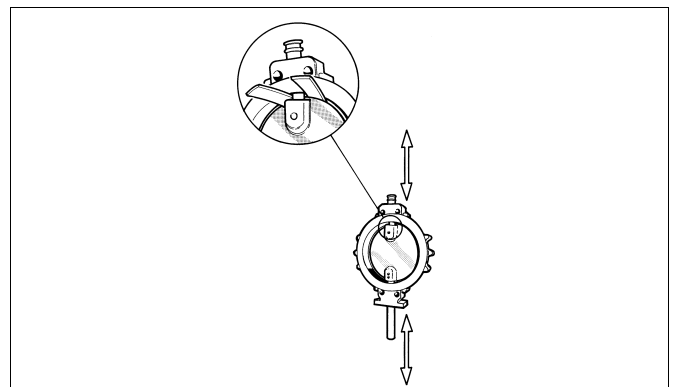

Fig. 14. Protecting the disc during disassembly and assembly
- ❑ Drill the holes carefully to the centre of the pins (14). Choose a drill 0.2-0.5 mm smaller than the diameter of the pin.
- ❑ Detach the screws (26) and the blind flange (10) and remove the gasket (18).
- ❑ Place rubber strips or other protection between the disc edge and the body and remove the shafts (see Fig. 14).
- ❑ Place the disc horizontally on a surface so that the flat side of the disc lays against the surface. Lift the body around the disc so that the shaft bores are aligned with the bores in the disc. Protect the disc (see Fig. 14).